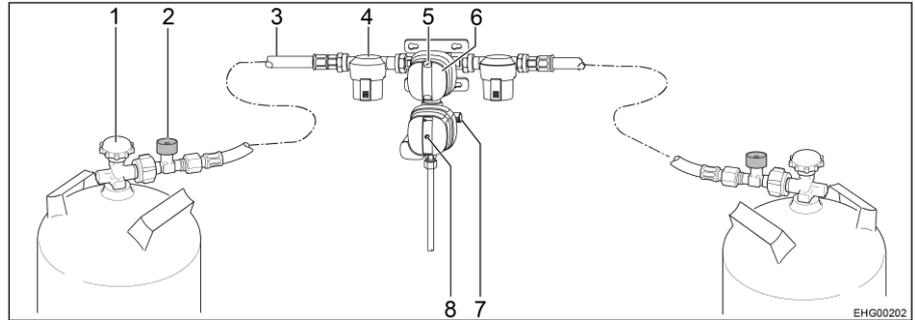
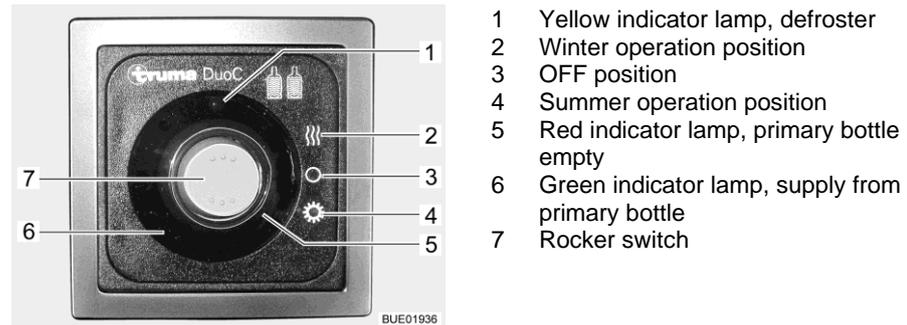

Fig. 87 Safety gas pressure regulating system DuoControl CS
Fig. 88 Operating unit (DuoControl)
The DuoControl regulating system consists of a reversing valve and a crash sensor. The DuoControl regulating system is installed between the high-pressure hoses (Fig. 87,3) with hose break guard (Fig. 87,2). The knob (Fig. 87,6) on the reversing valve is used to select which of the gas bottles is to be used as primary bottle and which is to be used as reserve bottle.
The status of the gas supply is indicated in the inspection window (Fig. 87,5):
The crash sensor blocks the gas supply in the event of a significant impact (e.g. accident). The situation of the yellow reset button (Fig. 87,8) indicates the operating status of the crash sensor:
- If the yellow reset button (Fig. 87,8) is in the pressed-in position, the crash sensor is ready to operate.
- If the yellow reset button (Fig. 87,8) is protruding, the crash sensor is **not** ready to operate. Putting into operation, see below.
The hose break guard (Fig. 87,2) blocks the gas flow if the connected hose breaks. The hose break guard must be activated by pressing the green button.
The operating unit shows the status of the primary bottle. When the green indicator lamp (Fig. 88,6) illuminates, the primary bottle is full. When the red indicator lamp (Fig. 88,5) illuminates, the primary bottle is empty. In this case, the reserve bottle is used for the gas supply.
If the heater of the DuoControl regulating system (defroster) is active, the yellow defroster indicator lamp (Fig. 88,1) is lit.
In addition, the operating unit (Fig. 88) is also used to set summer operation or winter operation.
- Press lower part of the rocker switch (Fig. 88,7) (summer operation position (Fig. 88,4)).
- Press upper part of the rocker switch (Fig. 88,7) (winter operation position (Fig. 88,2)).
- Use the knob (Fig. 87,6) on the reversing valve to select the gas bottle which is to be the primary source of gas (primary bottle). Always turn the knob as far as it will go.
- Open regulator taps (Fig. 87,1) on the gas bottles.
- Press and hold the green button of the hose break guard (Fig. 87,2) for about 5 seconds. The green marking is shown in the inspection window (Fig. 87,5).
- If the crash sensor has triggered (the yellow reset button (Fig. 87,8) is protruding):
Press the yellow reset button (Fig. 87,8) in forcefully, turn it slightly in a clockwise direction and hold it for about 5 seconds. Make sure that the reset button remains in the pressed-in position ("ready for operation"). If it is not possible, reset the system as described: Use the Torx insert T20 on the included screwing aid to strengthen the rotary movement.
- Set the rocker switch (Fig. 88,7) to the OFF position (Fig. 88,3). The indicator lamps go out.
- Close regulator taps (Fig. 87,1) on the gas bottles.
If the green indicator lamp (Fig. 88,6) goes out during operation and the red indicator lamp (Fig. 88,5) lights up, the primary bottle is empty and must be changed. The red marking is shown in the inspection window (Fig. 87,5) of the associated gas bottle. The reserve bottle continues supplying the gas appliances with gas.
- Turn the knob (Fig. 87,6) as far as it will go in the direction of the gas bottle currently used. In this way, this gas bottle is the primary bottle now, and the empty gas bottle becomes the reserve bottle. The marking in the inspection window (Fig. 87,5) changes from red to green.
- Close regulator tap (Fig. 87,1) on the empty gas bottle. Pay attention to the direction of the arrow.
- Press the green button of the hose break guard (Fig. 87,2).